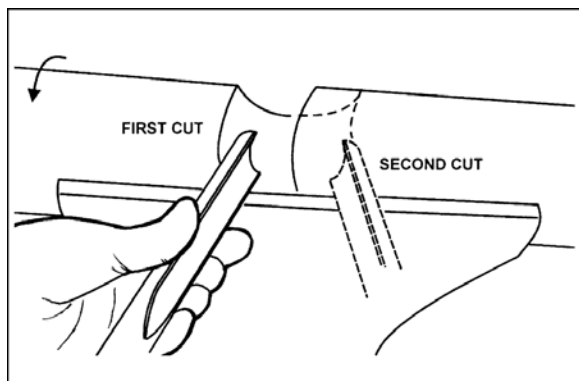

Figure 35
- Use a spindle gouge. With the flute of the tool at 90 degrees to the workpiece, touch the point of the tool to the workpiece and roll in towards the bottom of the cove. See Figure 35. **Stop at the bottom; attempting to go up the opposite side may cause the tool to catch.**